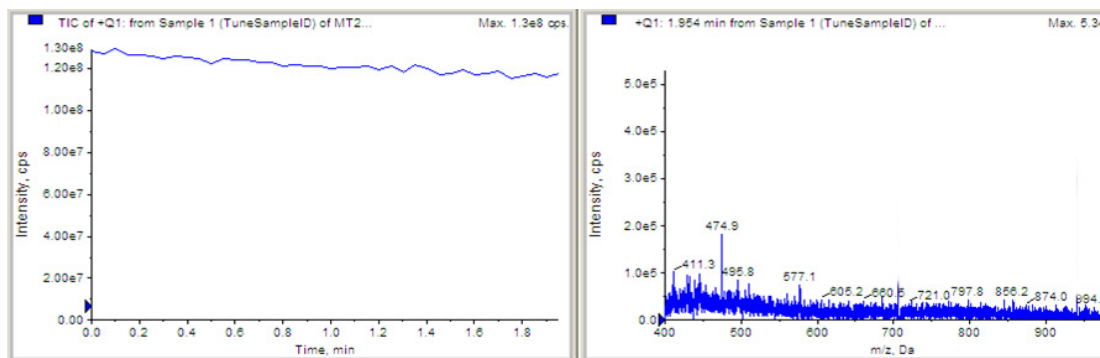

Figure 3-23 Q1 MS scan for background noise
- Stable spray appears as shown in Figure 3-23.